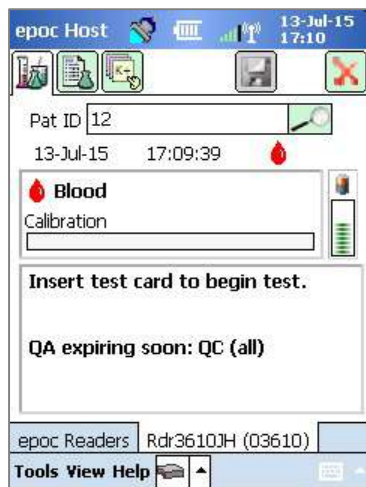

Fig. 39.
- The **warning period** is the time before the schedule expires, during which the epoc Host will display a reminder that the schedule will soon expire (Fig. 39)